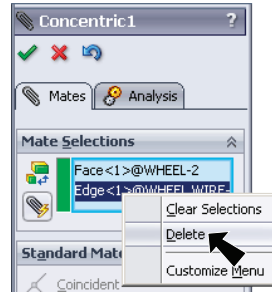

Fig. 5
Step 4. If you select the wrong face, **right click** the Mate Selection in the Mate Property Manager and click Delete, Fig. 5.